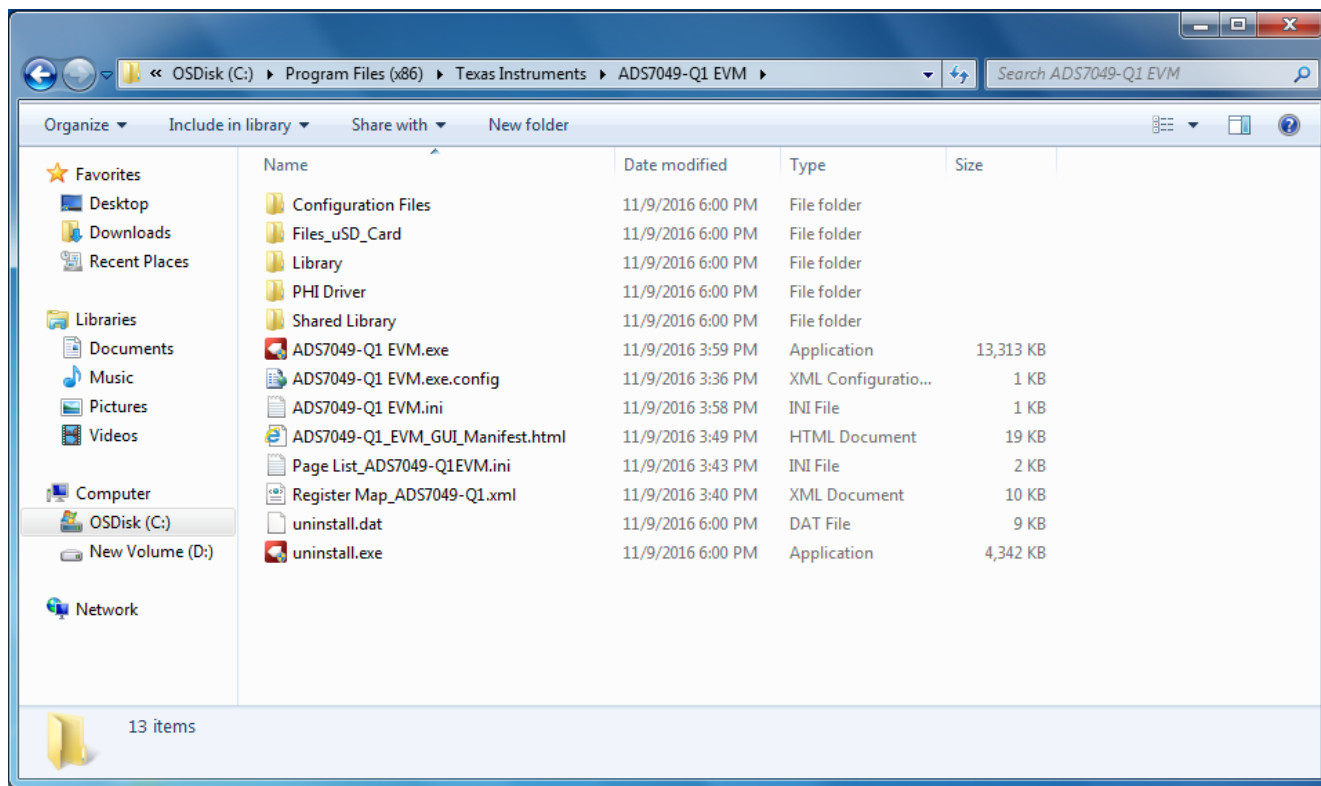

Figure 8. Launch the EVM GUI Software
3. Launch the ADS7049-Q1EVM GUI software from the installed path as shown in Figure 8 or using the desktop shortcut created during installation.